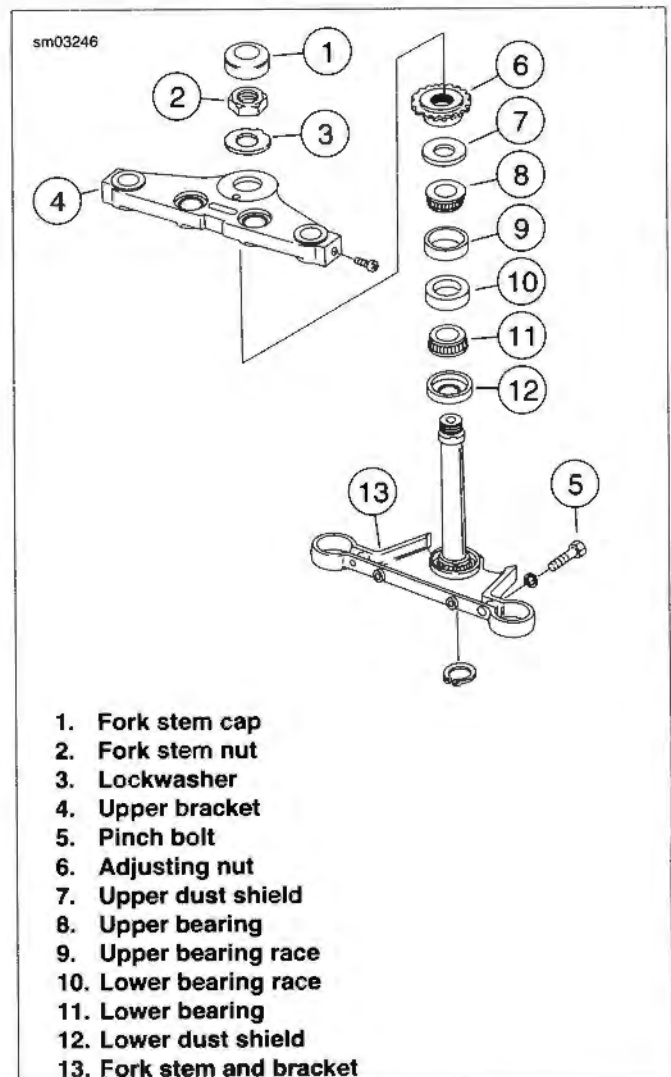

Figure 1-46. Steering Head: FXST/FXSTC
- a. See Figure 1-46. Loosen the upper fork stem bracket pinch bolts (5).
- c. Loosen the fork stem nut (2).
- d. Loosen the bearing adjustment nut (6) slightly.
- d. Tighten the bearing adjustment nut (6) slightly.